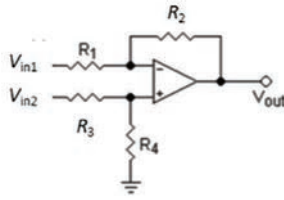

Figure 9.45 Ch 9: No. 21, self-test
21. Determine the output voltage for the difference amplifier circuit shown in Figure 9.45, if R_1 is 2 k Ω , R_2 is 3 k Ω , V_{in1} is 4mV, and V_{in2} is 5 mV.